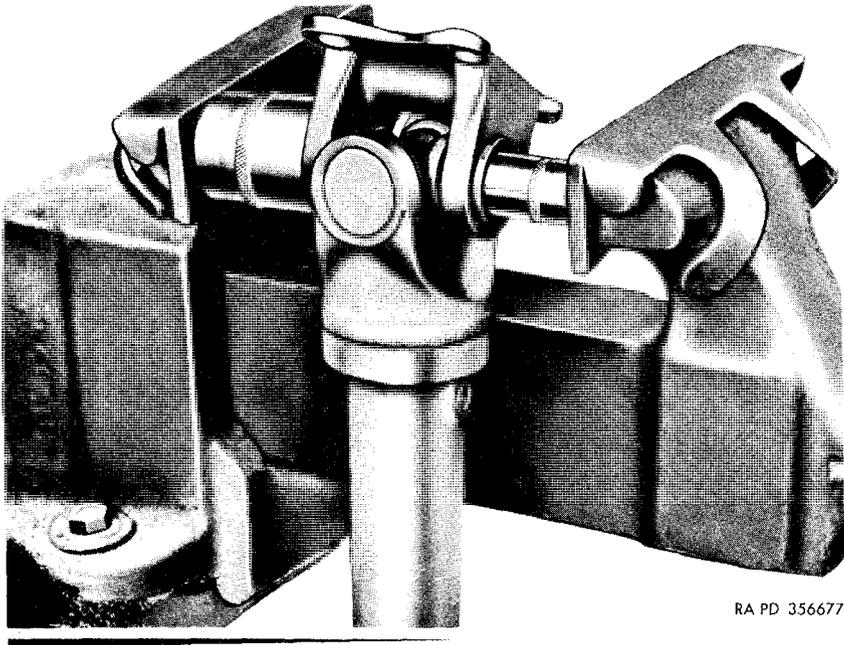

Figure 167. Removing bearings.
- (2) Press the four bearings from the universal joint in an arbor press, or remove them in the manner shown in figure 167. For this method, place the universal joint in a vise with a $1\frac{1}{4}$ -inch heavy-duty socket over one bearing and a $\frac{1}{2}$ -inch socket against the opposite bearing. Tighten the vise to force the bearing from the yoke, being careful not to damage either oil seal retainer as the bearing is removed. Remove the other three bearings in the same manner. Separate the two yokes and remove the journal.
- (3) Remove the four bearing oil seals from each journal.